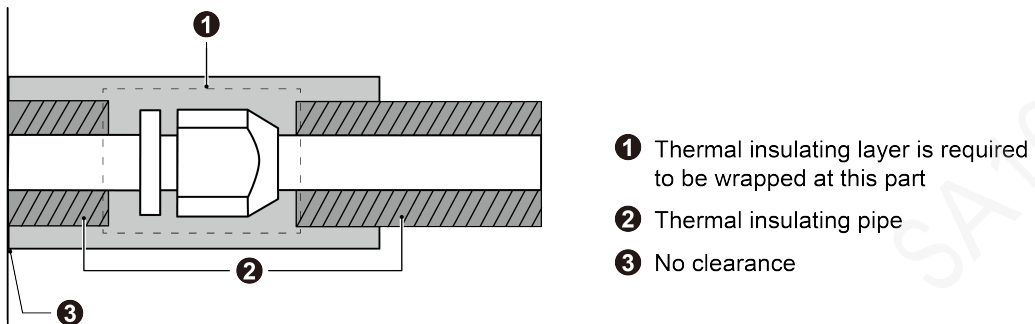
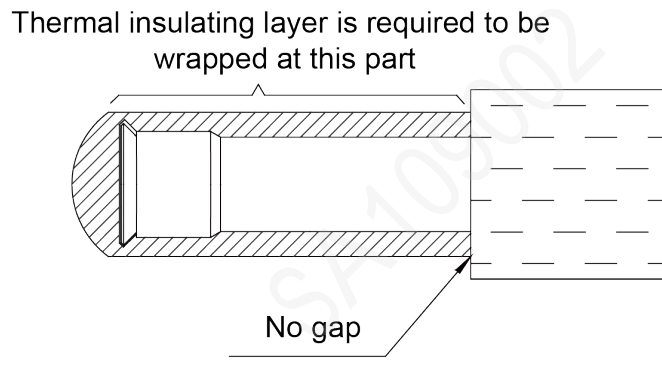
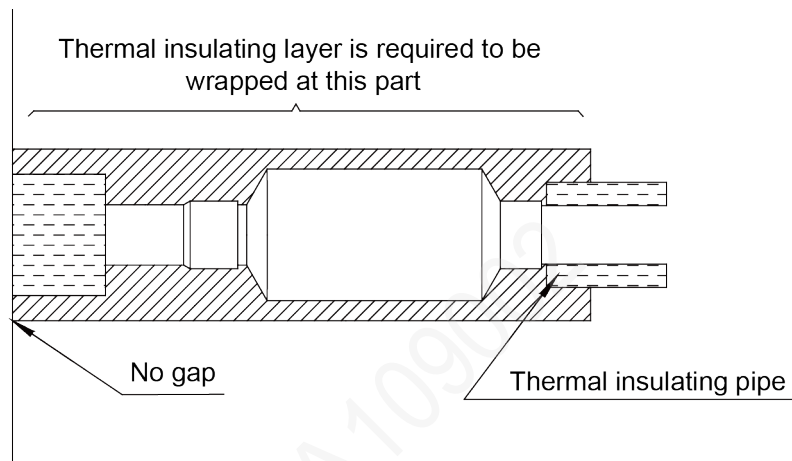

Fig.4.2.13
Fig.4.2.14
Fig.4.2.15
- 4) Joints of indoor and outdoor unit should be wrapped with insulating material and leave no gap to surfaces of indoor unit and outdoor unit. See Fig.4.2.13, Fig.4.2.14 and Fig.4.2.15.